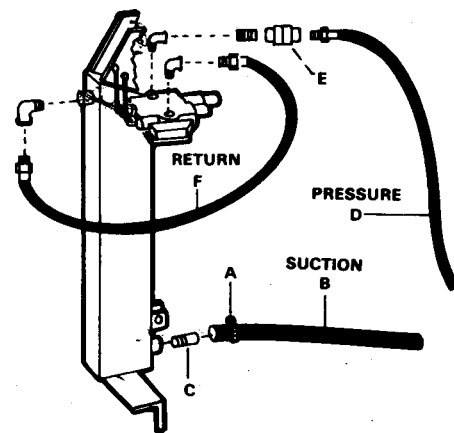

FIG. 13
The Pressure and Suction Hoses were connected to the Pump at the factory. Now connect the free ends of these hoses as shown in Fig. 13.
1. Refer to FIG. 13.